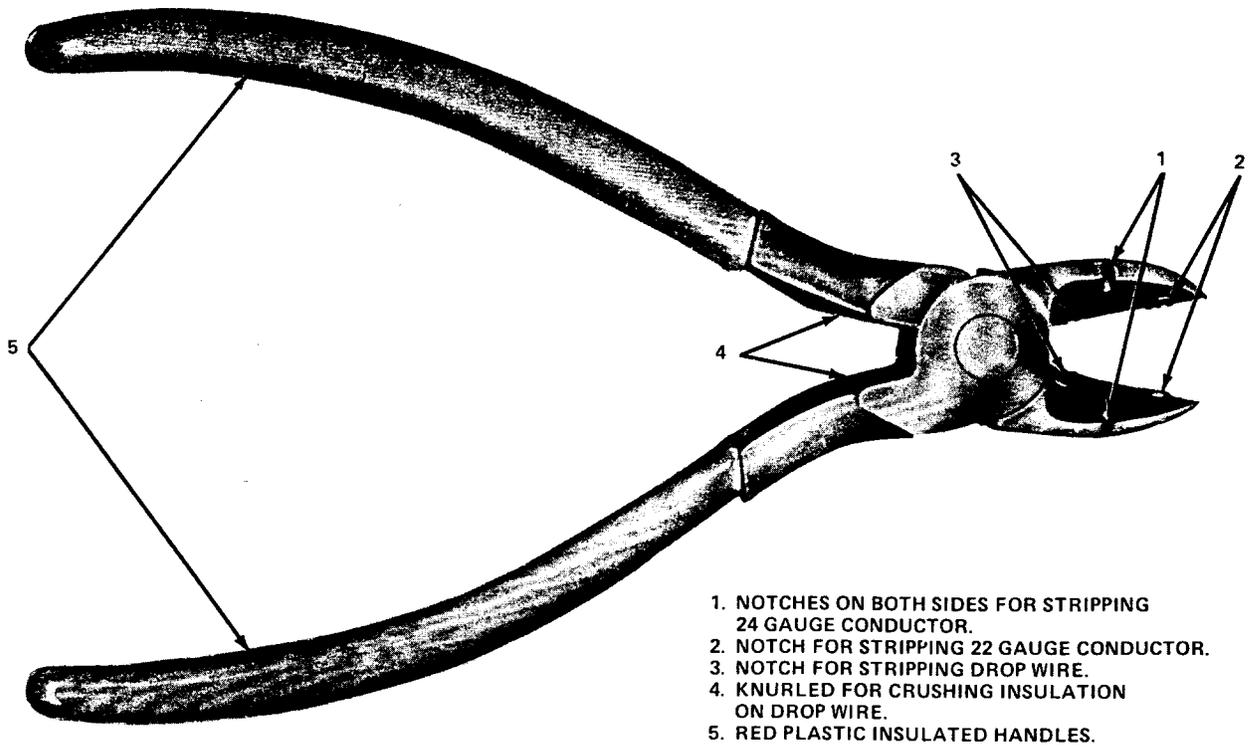

Fig. 10—Recommended Tool for Skinning Insulation From Conductors
6.01 The recommended method for skinning the insulation from individual conductors is with the 6-inch diagonal pliers (Fig. 10). The newer 6-inch diagonal pliers have separate notches for skinning 22-gauge, 24-gauge, and drop wires.